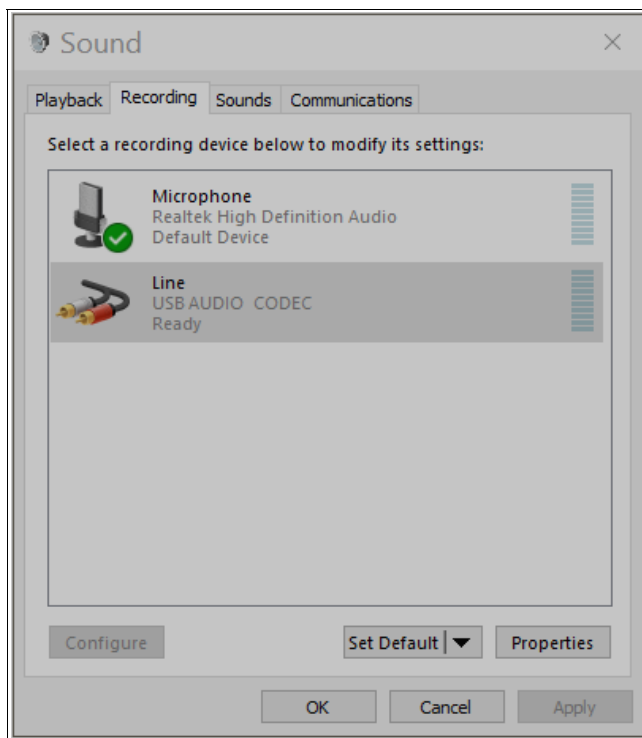

Figure 12 - Sound window Recording tab
- In the Sound window that opens, select the "Recording" tab as shown below in Figure 12.